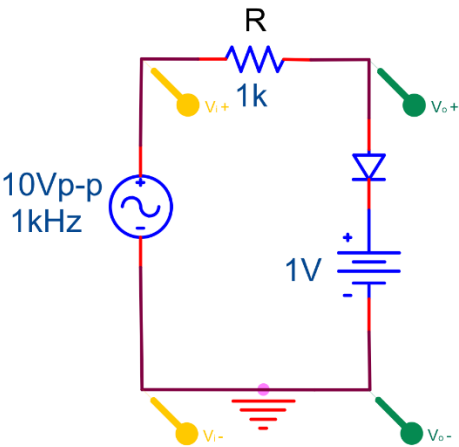

Figure 3.9
1. Construct the single positive peak clipper in Figure 3.9. Using the oscilloscope, measure and record the level at which the waveform clips on the positive side of the wave form.
1. Run a PSPICE simulation of the circuit in Figure 3.9 and compare this to step one of the prelab. What is the chief source of any discrepancy? For this and all other PSPICE simulations of the diode use the 1N4002 model in the PSPICE library.